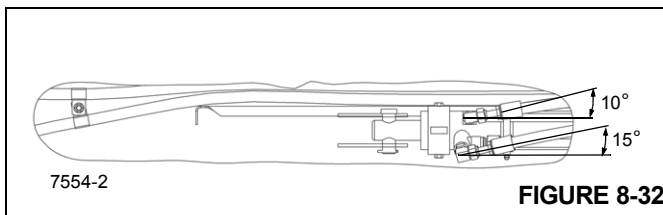

FIGURE 8-32
**NOTE:** Keep hydraulic fittings and hoses close to angles shown and as low as possible to prevent rubbing with the beam top plate and side plate, and for proper tracking during beam extension and retraction Figure 8-32.